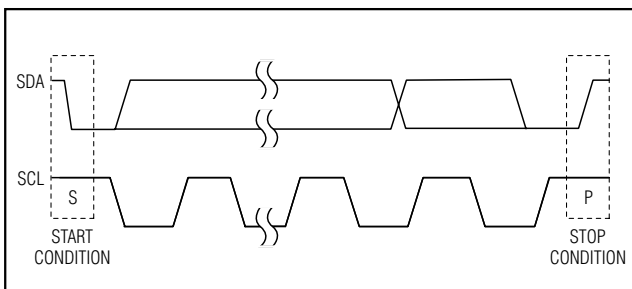
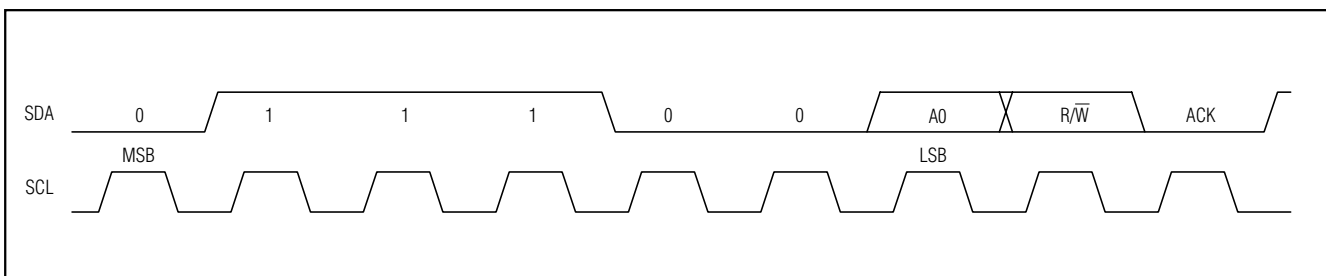
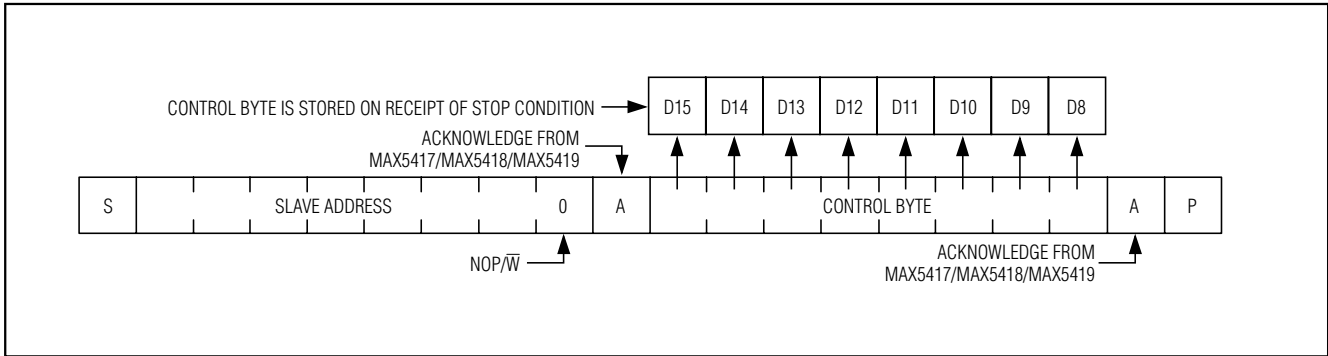

Figure 3. Start and Stop Conditions
Figure 4. Slave Address
Figure 7. Command Byte Received
Each transmission consists of a START (S) condition (Figure 3) sent by a master, followed by the MAX5417/MAX5418/MAX5419 7-bit slave address plus the 8th bit (Figure 4), 1 command byte (Figure 7) and 1 data byte, and finally a STOP (P) condition (Figure 3).
Both SCL and SDA remain high when the interface is not busy. A master signals the beginning of a transmission with a START condition by transitioning SDA from high to low while SCL is high. When the master has finished communicating with the slave, it issues a STOP condition by transitioning the SDA from low to high while SCL is high. The bus is then free for another transmission (Figure 3).
The MAX5417/MAX5418/MAX5419 have a 7-bit-long slave address (Figure 4). The 8th bit following the 7-bit